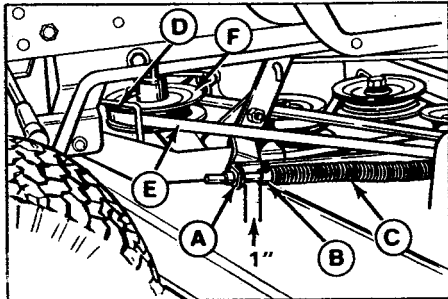
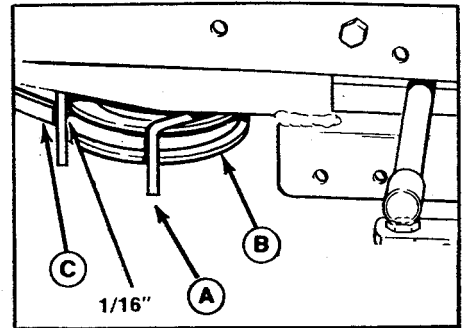

Figure 29. Mower Drive Belt Tension Adjustment - 42" & 48"
Figure 30. Right-Hand PTO Pulley Belt Stop
2. Measure the distance between the PTO rod guide (A, figure 29) and the set collar (B). The distance should measure one inch. If not, proceed to step 3.
4. Loosen the setscrew in the set collar (B). Move the rod forward to increase gap, or backward to decrease gap. Retighten the setscrew.
There are two belt stops at the PTO pulley; one on the left (D, figure 29) and one on the right (A, figure 30). With the PTO lever engaged, measure the distance between the belt stop and belt. There should be 1/16 inch (1.5 mm) clearance between each belt stop and the belt. To adjust a belt stop, loosen its mounting capscrew, move the belt stop, and retighten the capscrew. Recheck the measurement.